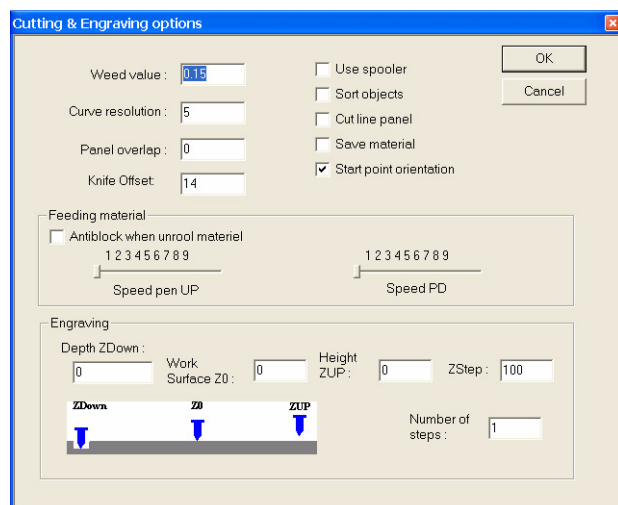

Figure 28
4 On the **Cutting Control Panel** window, click the **Options** button to open the **Cutting Options** window. See figure 28.
- 5** Set the Cutting Options to match those shown in figure 28.